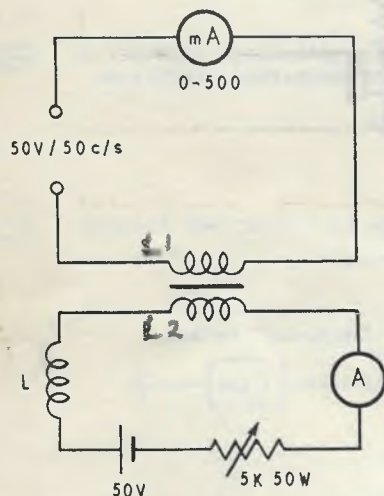

FIG. 1.
STEP 1. Connect the circuit as shown in Fig.1.